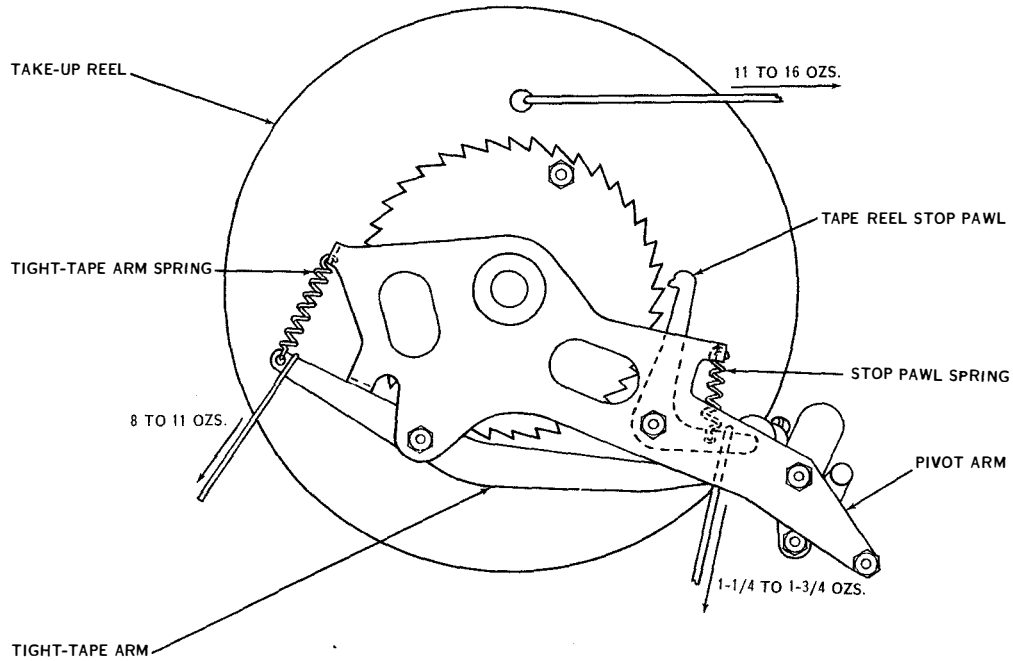

Figure 7-112. Tight Tape Arm and Stop Pawl Spring Tensions
(13) TAKE-UP REEL CLUTCH TORQUE. (See figure 7-112.)—With the motor running and the tape reel assembly operating, hook a 32-ounce scale in the hole of the left-hand reel disk. Pull on the scale at right angles to the radius of the reel and horizontally against the rotation of the reel. It should require from 11 to 16 ounces to hold the reel stationary. To adjust the clutch torque, loosen the lock nut and adjust the friction nut to obtain the proper torque. Clockwise rotation (viewed from motor end of base) of the friction nut increases the torque and counterclockwise decreases the torque. Repeat the above procedure for each of the reels and retighten the lock nuts. Hold the friction nut with a No. 76289 wrench while tightening the lock nut.
(18) TIGHT TAPE ARM. (See figure 7-112.)—With a 32-ounce scale hooked to the tight-tape arm at the spring hole, pull in line with the spring. A pull of 8 to 11 ounces should be required to pull the arm away from the stop.
(19) TAPE REEL STOP PAWL SPRING TENSION. (See figure 7-112.)—With an eight-ounce scale hooked over the stop pawl at a point between the spring hole and the point at which it touches the tight-tape arm, pull in line with the spring. A pull of 1¼ to 1¾ ounces should be required to start the pawl moving away from the tight-tape arm.